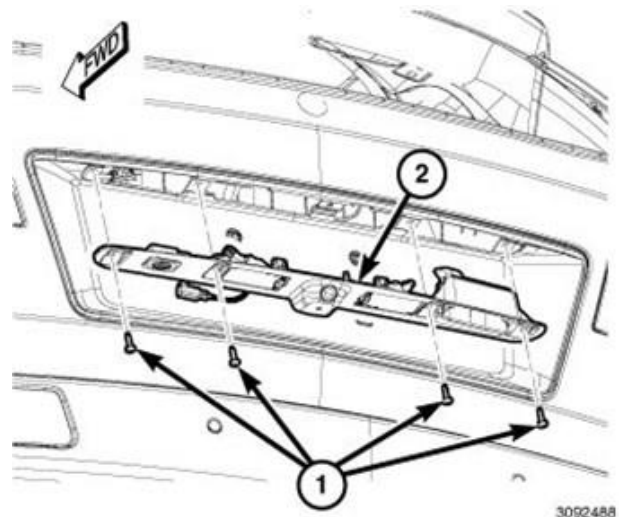
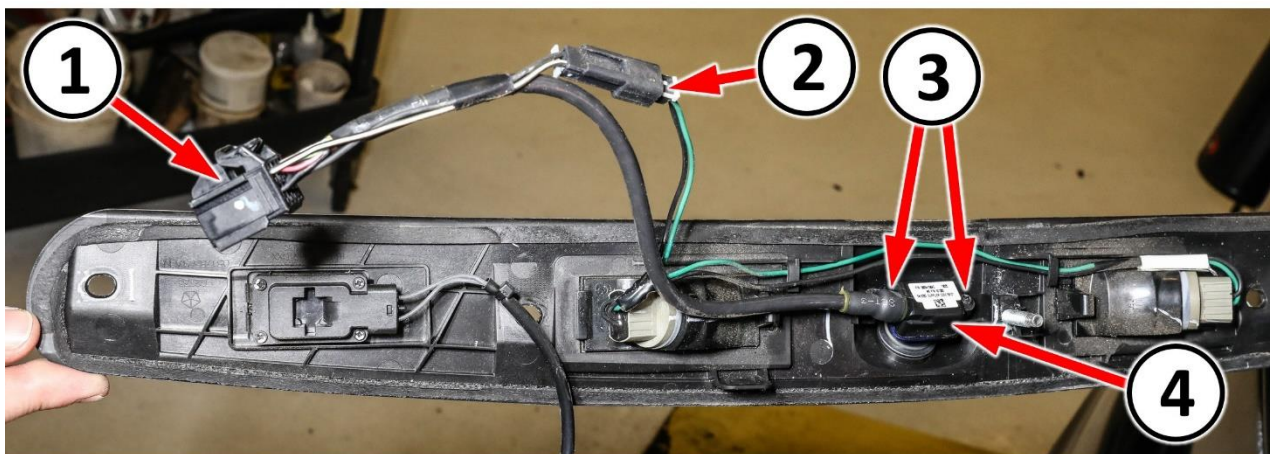

Figure 6 – Liftgate Handle Assembly
Figure 7 – Rearview Camera
12. Remove the four screws (1) that secure the liftgate handle assembly (2) to the outside of the liftgate (Figure 6).
13. Partially remove the liftgate handle assembly (2) from the liftgate while guiding the electrical connectors for liftgate handle, rearview camera, and license plate lamp through the liftgate (Figure 6).
14. Disconnect the license plate lamp wire harness connector (2) (Figure 7).
15. Remove the camera two screws (3) then remove the camera (4) from the liftgate handle assembly (Figure 7).
16. Install the camera (4) to the liftgate handle assembly and fasten with the two screws (3) (Figure 6). (Figure 7).
17. Connect the license plate lamp wire harness connector (2) (Figure 7).
19. Position the liftgate handle assembly (2) to the liftgate and install the four screws (1). Tighten the screws securely (Figure 6).